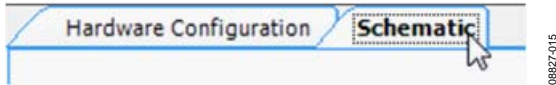

Figure 15. Schematic Tab
1. To access the **Schematic** tab, where a signal processing flow can be created, click the **Schematic** tab at the top of the screen (see Figure 15).